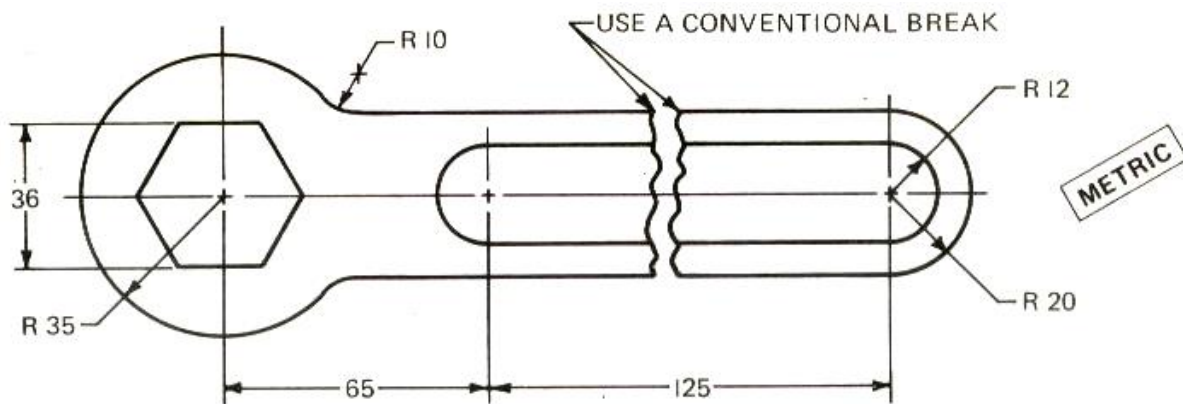

Figure QU7 Hex Wrench
- (b) Write an AutoLisp programming code to generate the pattern shown, of a Hex Wrench, on Figure QU7 below. All the feature dimensions are dependent on the Across Flats (A/F) distance such that the user only enters the A/F distance and the start point of the feature drawing. The rest of the feature drawing will be generated automatically once these entries are made on the user interface provided on the automatic drawing package. [17]